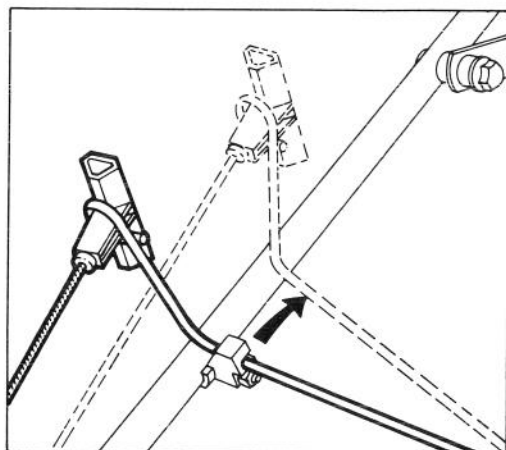

Figure 8
3. Swing rope rod over to right (Fig. 8).
into retaining bracket (Fig. 8).